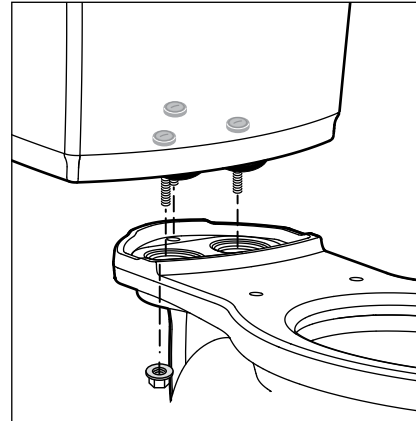

FIGURE 1
- Remove tank nuts (Do not remove 2nd set of tank nuts) **FIGURE 1 & 2**